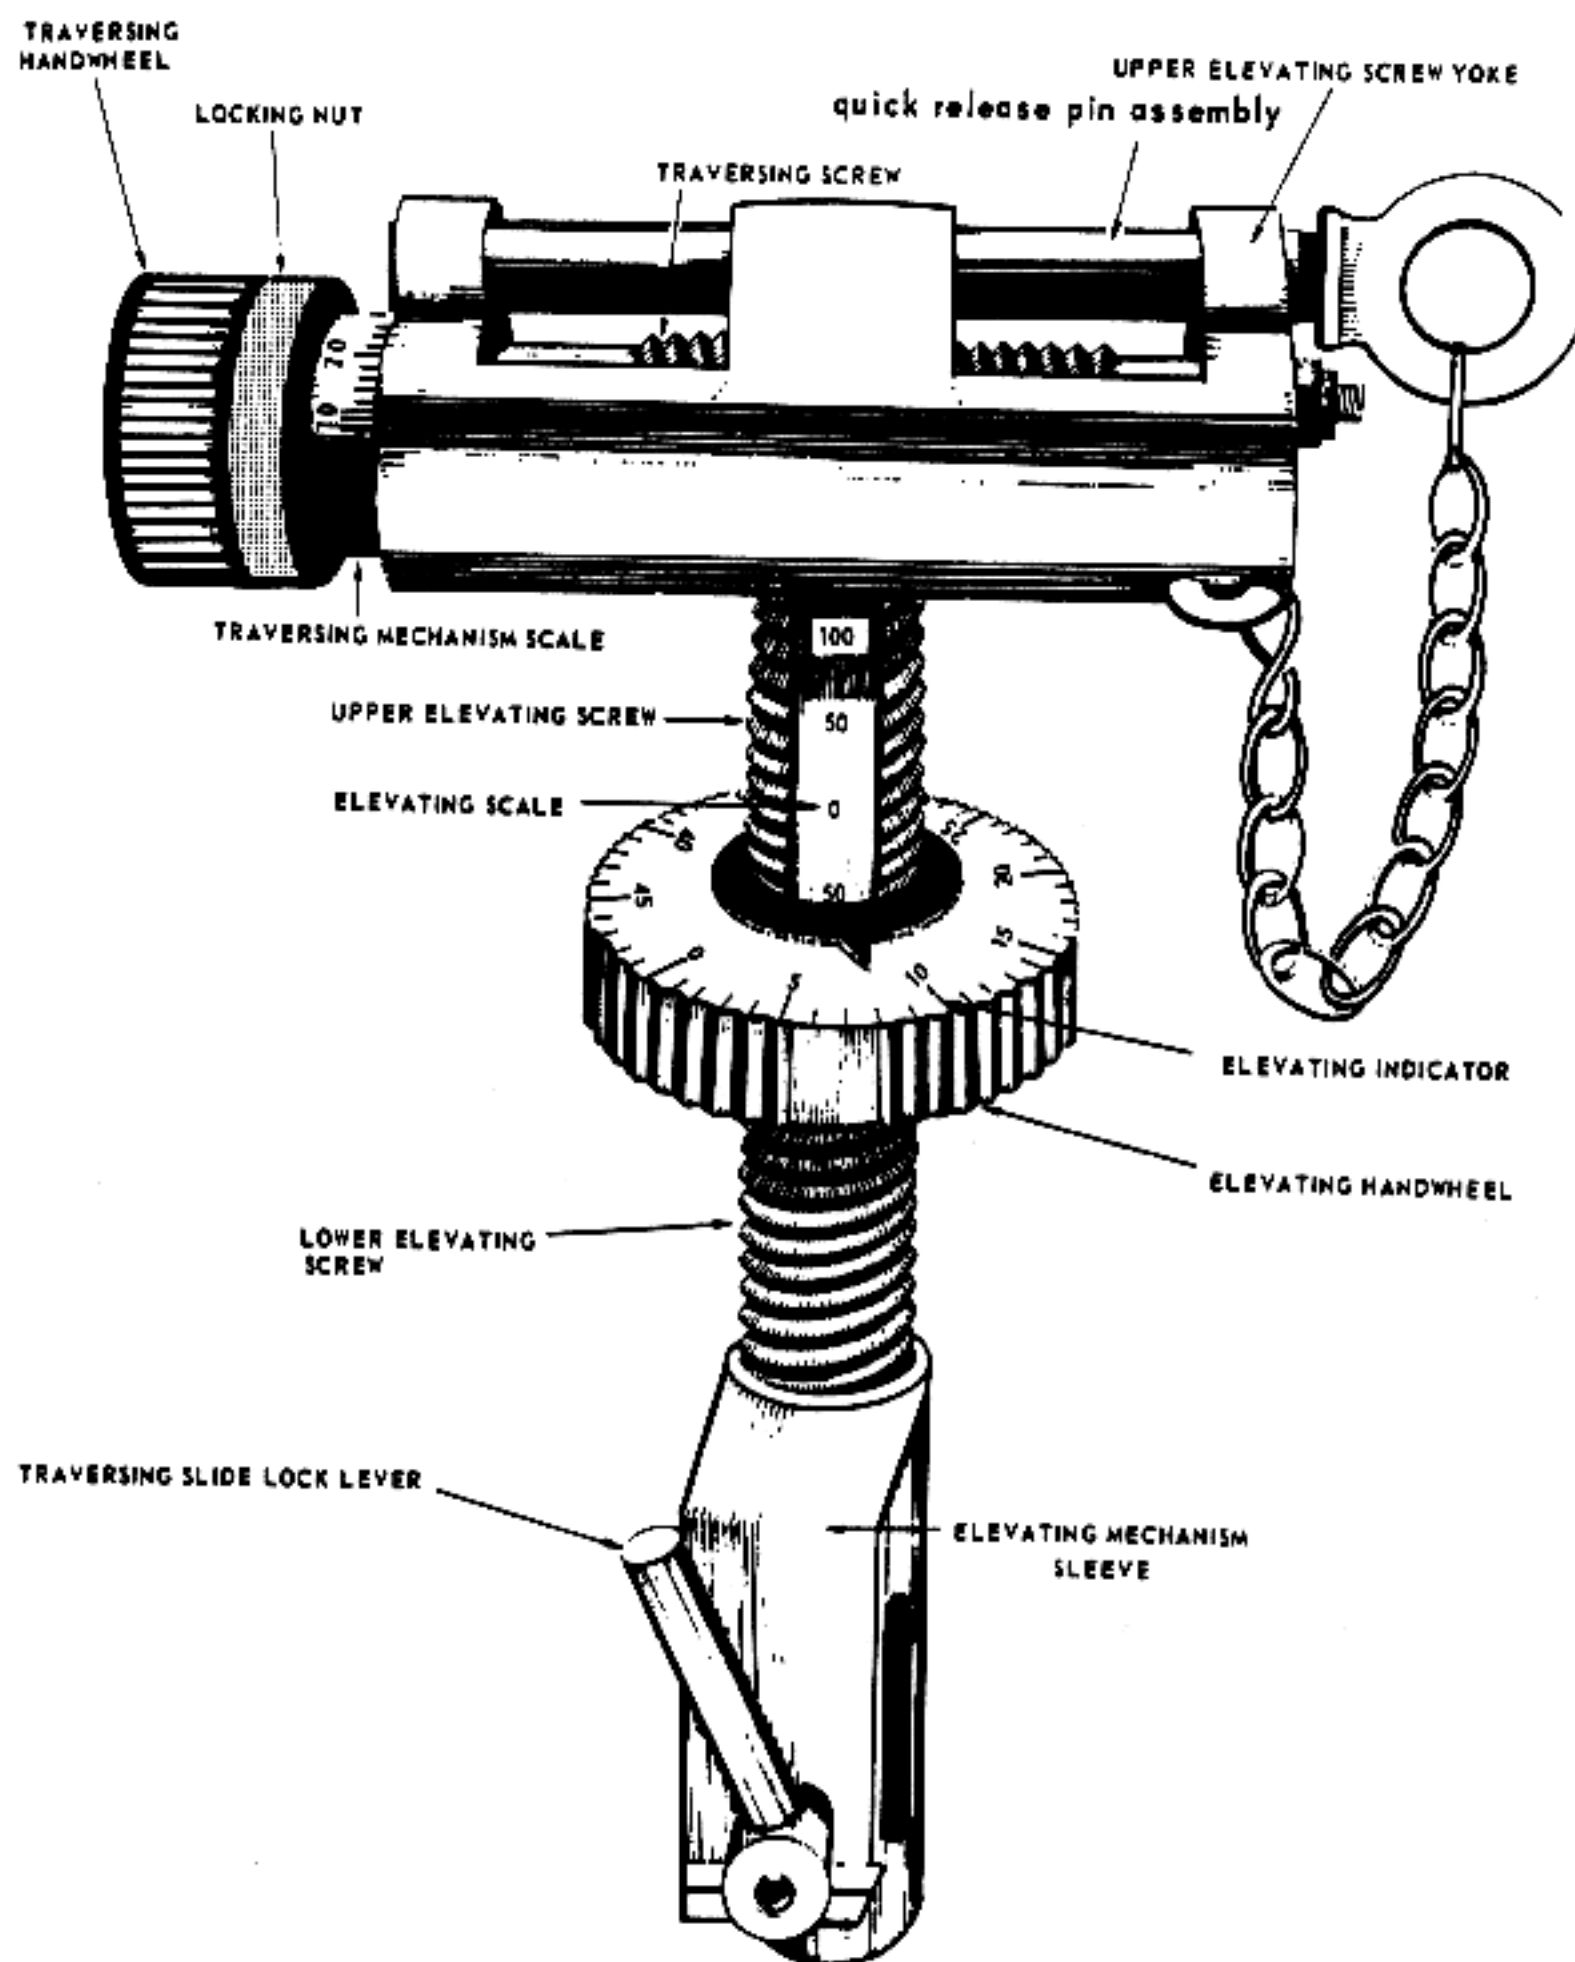

Figure 107. Elevating mechanism.
##### (2) The elevating mechanism (fig 107).